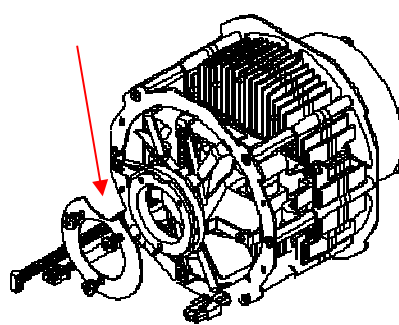

Fig.2
5. Place HPLED II C6 on working bench and start loosening the 3 M4 screws that hold the metal ring (marked by red arrow in figure 2).